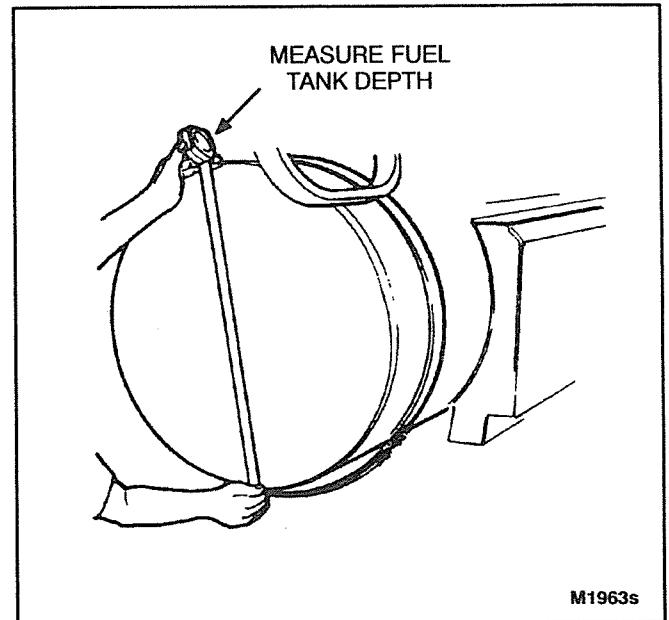

FIGURE 10-1. FUEL TANK MEASUREMENT
2. Measure the end of the tank to determine its depth (Figure 10-1). Use a tube cutter to shorten the long (fuel supply) tube so it will be 2 inches (50.8 mm) shorter than the depth of the tank.